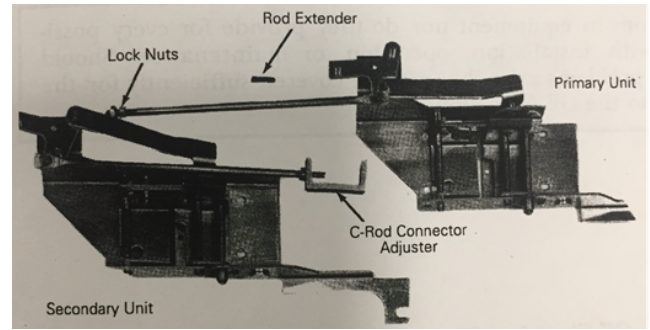

Figure 8. Attachment of the interconnection rod for a horizontal installation.
1. For a horizontal installation, attach the long rod ends to the pins on the pivots as shown in Figure 8. A variety of connecting hardware is provided in the Mechanical Interlock kit; the $\frac{1}{4}$ -20 threaded rod is supplied by the customer.